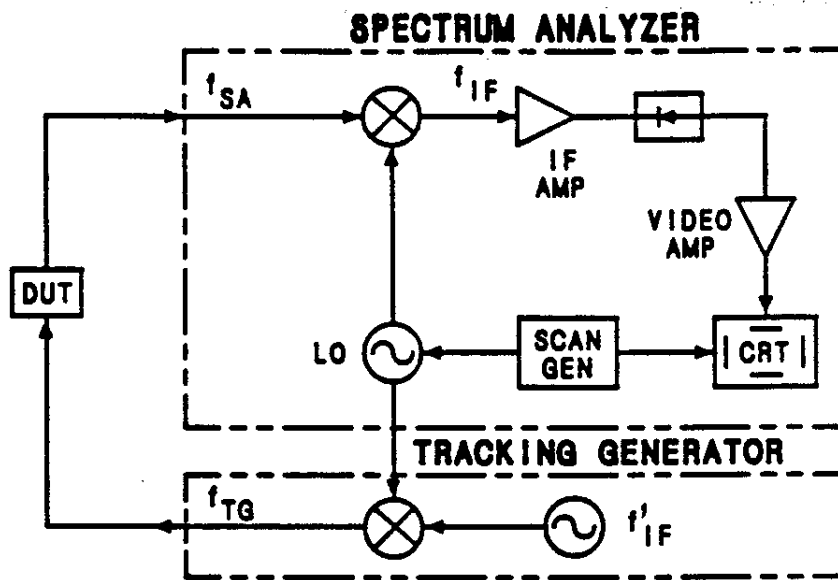

Figure C-1. Spectrum Analyzer/Tracking Generator Block Diagram
The spectrum analyzer in the HP 70000XL is a swept-tuned, heterodyned receiver (see Figure C-1). The incoming signal at the RF input (F_{sa}) mixes with the local oscillator (LO) frequency (F_{lo}) to produce a sum and difference. If the difference equals the intermediate frequency (F_{if}), it is amplified, then sent to a video detector. After detection, the video signal is amplified and applied to the vertical deflection input of the CRT to produce an amplitude response on the display. A scan generator simultaneously drives the horizontal deflection input and the LO tuning input to synchronize the CRT's frequency axis with the RF input.